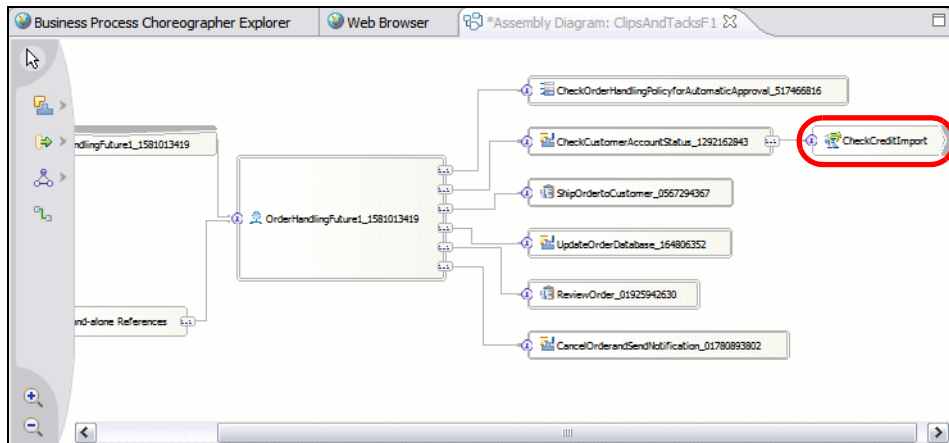

Figure 10-62 Assembly diagram with Web service invocation
- ▶ The complete assembly diagram is shown in Figure 10-62.